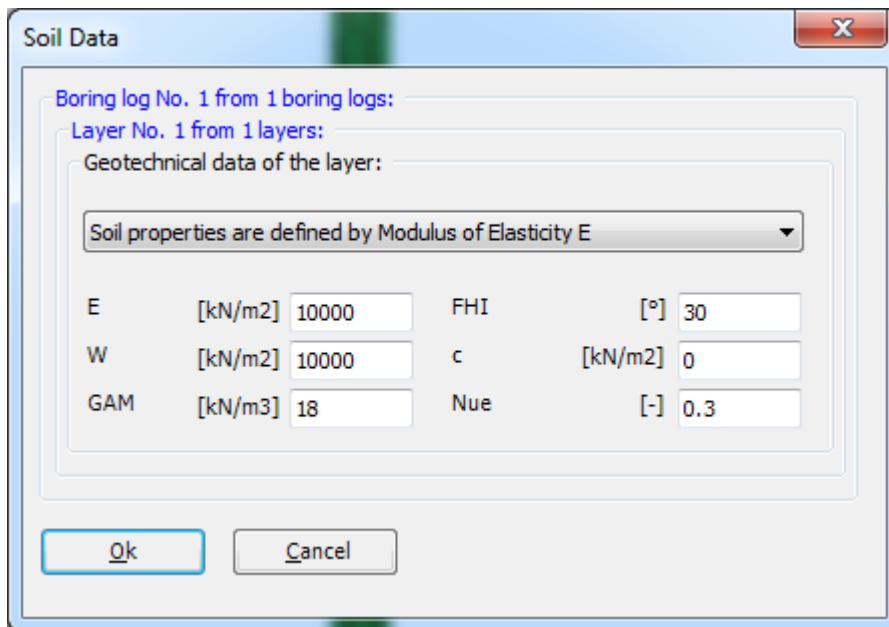

Figure 11.22 "Geotechnical data of the soil layer" dialog box
- Double-click on the geotechnical data of the soil layer. The corresponding dialog box appears allowing you to modify the geotechnical data of the soil layer, Figure 11.22
- In the dialog group box "Geotechnical data of the layer" in Figure 11.22, define the geotechnical data of the soil layer as follows: